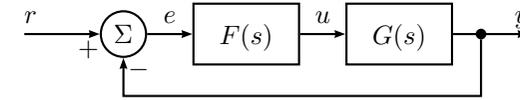
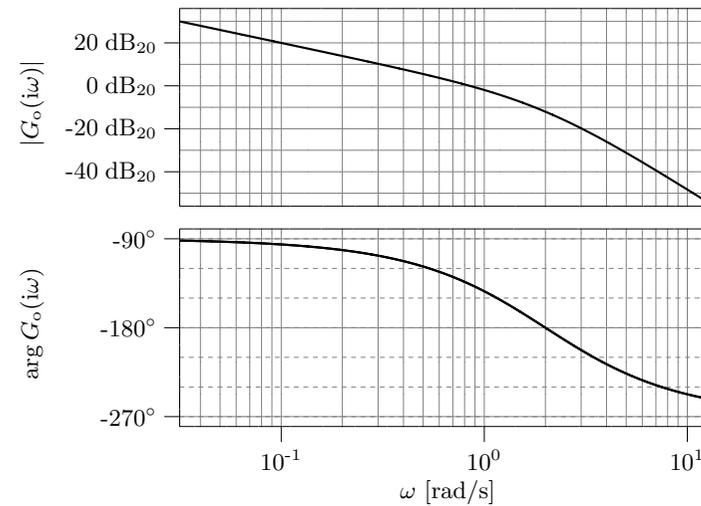
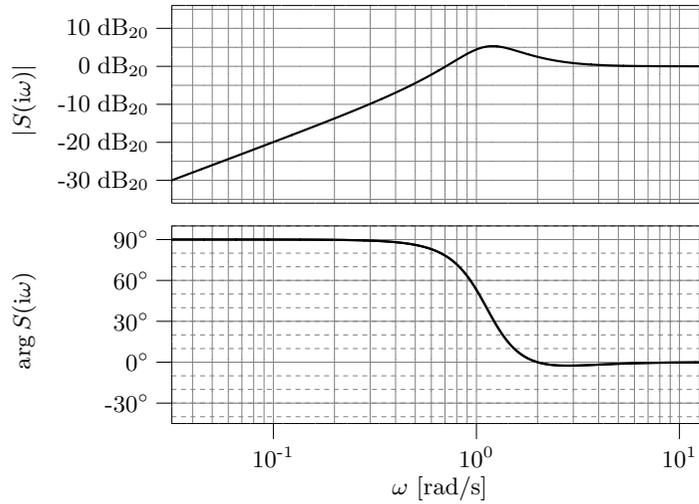

Figure 6.11a
Figure 6.11b
Figure 6.11c
6.11 Consider the control system in Figure 6.11a. The controller $F(s) = 2$ gives the Bode plot of the loop gain $F(i\omega)G(i\omega)$ shown in Figure 6.11b. The Bode plot of the sensitivity function is shown in Figure 6.11c. The reference signal is $r(t) = 2 \sin 0.1t$. Determine the amplitude of the error in steady state.